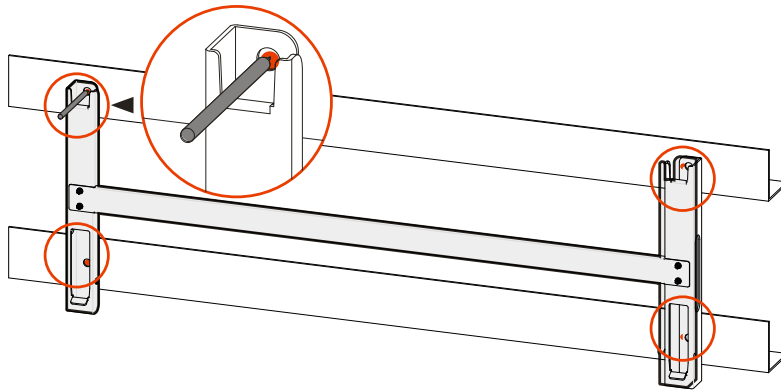

Figure3-12 Mark the mounting holes position
- Step 2 Place the assembled wall mount at the installation point, use a horizontal ruler to adjust the angle, and mark the position of the hole on the bracket, as shown in Figure3-12.